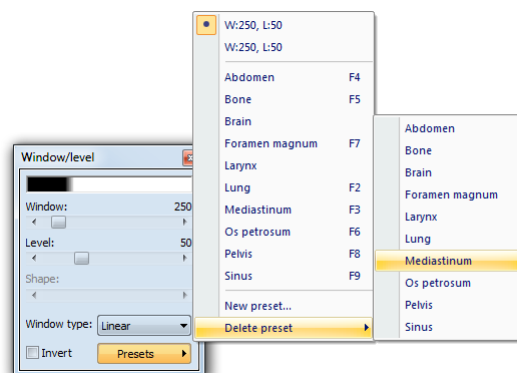

Figure 142 – Deleting window/level preset
3. Select the preset you want to remove in the displayed submenu list (see Figure 142).